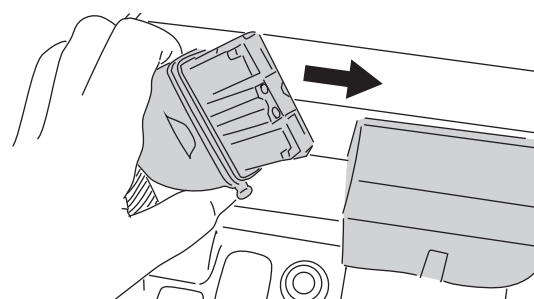

Fig.5
Connect the power cable to the battery connector of the Battery Pack. (Fig.5)
1. Remove the power cable from the Battery Pack. (Fig.5)